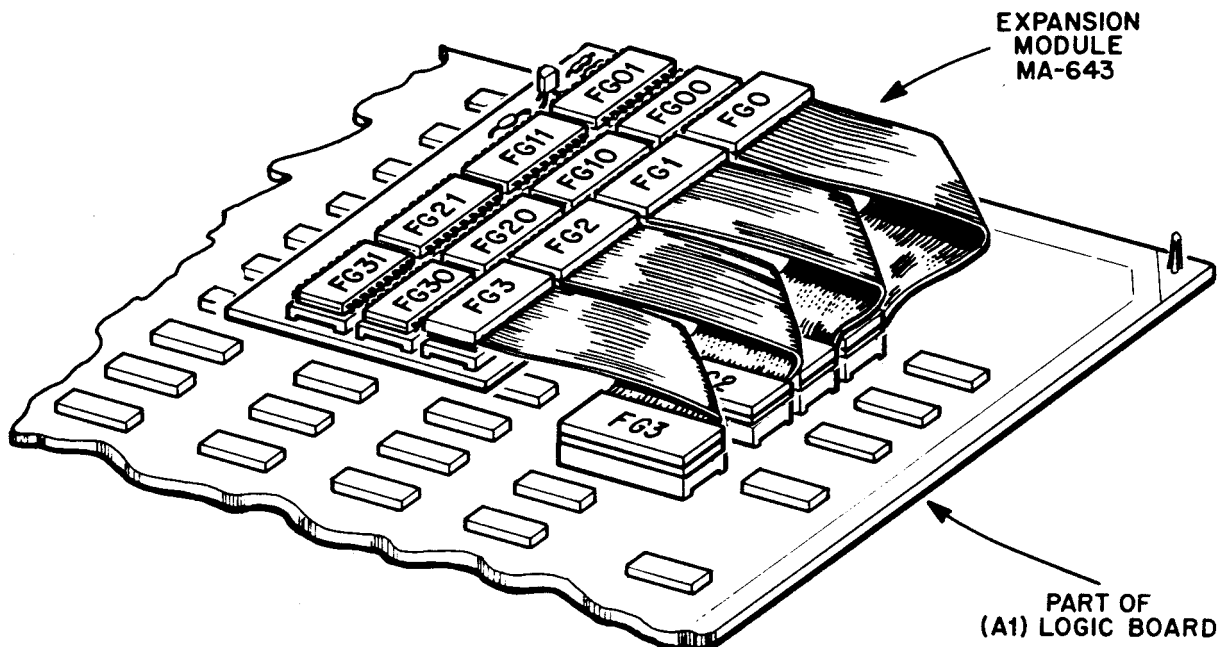

FIGURE 1.
2. THE FOREGROUND OBJECT ROM (EXPANSION MODULE, MA-643) CONSISTS OF FOUR SERIES PAIRED 2764'S WHICH HAVE THE SUM EQUIVALENT OF DOUBLING THE MEMORY CAPACITY REQUIRED FOR THE Q*BERTS QUBES (GAME GV-119). THE LOGIC PROM KIT UTILIZED IS PK-119. SOUND PROM KIT USED IN THIS GAME IS PKS-119. SEE FIGURE 1. FOR LOCATION OF THE EXPANSION MODULE AND FIGURE 2. FOR THE SCHEMATIC DIAGRAM. THIS CIRCUIT MODIFICATION REPLACES THE K4, K5, K6 AND K7-8 PORTION OF LOGIC BOARD ASSY.(A1), SCHEMATIC DIAGRAM BOTTOM OF PAGE 21, SHEET 3 OF 3.